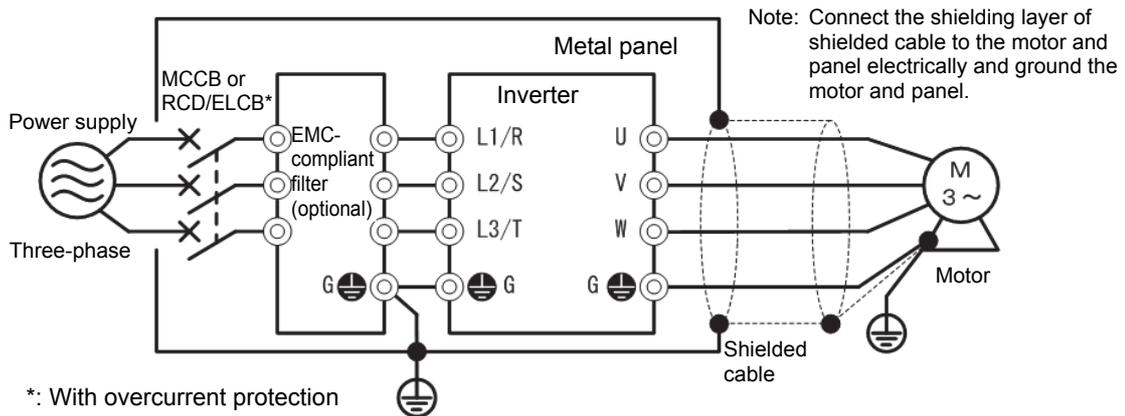

Figure G-1 Mounting an EMC-compliant Filter (option) in a Metal Panel
- (1) Mount the inverter and the filter on a grounded panel or metal plate. Use shielded wires for the motor cable and route the cable as short as possible. Firmly clamp the shields to the metal plate to ground them. Further, connect the shielding layers electrically to the grounding terminal of the motor.
- (2) For connection to inverter's control terminals and for connection of the RS-485 communication signal cable, use shielded wires. As with the motor connections, clamp the shields firmly to a grounded panel.
- (3) If noise from the inverter exceeds the permissible level, enclose the inverter and its peripherals within a metal panel as shown in Figure G-1.